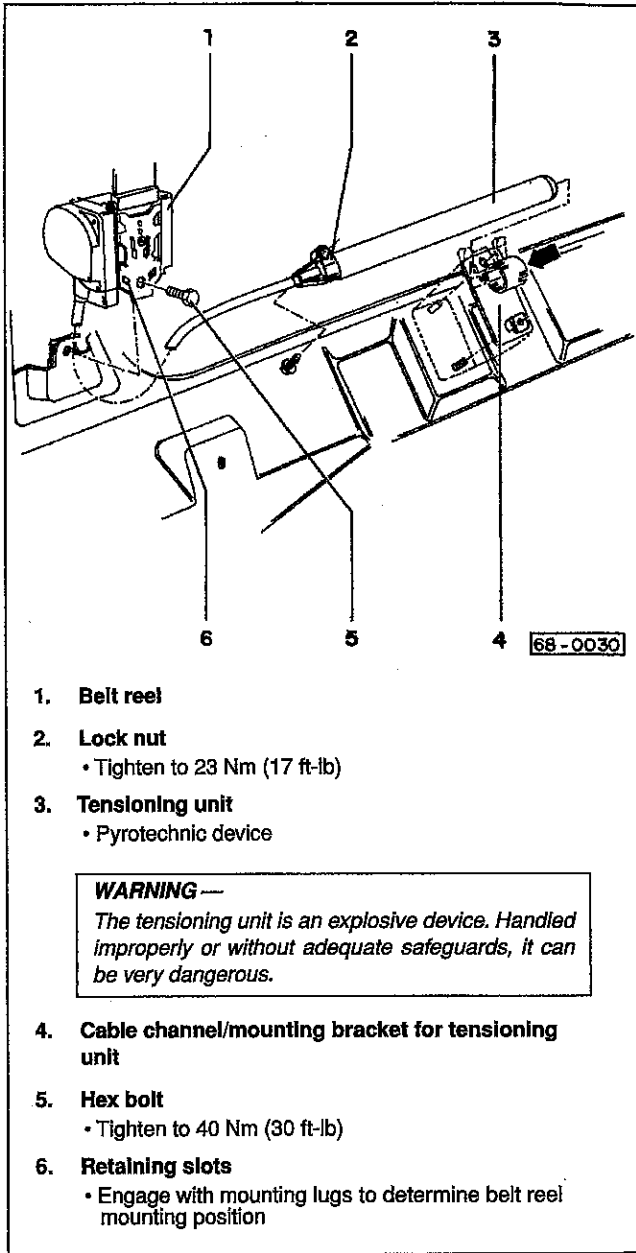

Fig. 5. Front belt reel tensioning unit for 4-door models.
The emergency tensioning seat belt retractor uses a pyrotechnic device to tension the front seat belts during frontal impacts. The tensioning unit is a potentially dangerous device that requires special handling and disposal. The tensioning unit has no expiration date and is an integral part of the seat belt retractor (belt reel). Fig. 5 shows the tensioning unit/retractor used on 4-door models. Fig. 6 shows the tensioning unit/retractor used on 2-door and Cabrio models.
2. Loosen tensioning unit locknut, this detaches the tensioning unit and makes it inactive. See Fig. 5.
5. Installation is the reverse order of removal. Fig. 5 lists assembly tightening torques.